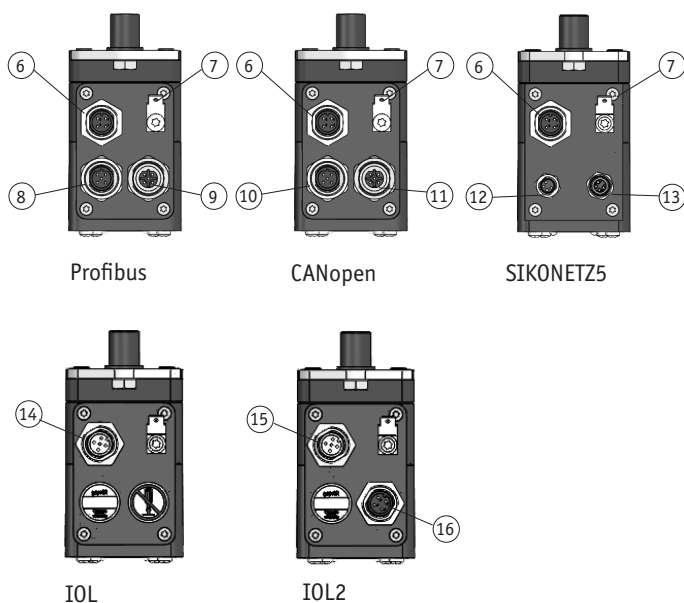

Fig. 7: Connection elements
Protect all contacts that might be energized from being touched. Take care that the bus is connected via the "Bus In" ⑧ connection (see Fig. 7). The live contacts on "Bus Out" ⑨ will be protected by the bushing this way (IP type of protection, see chapter 9).